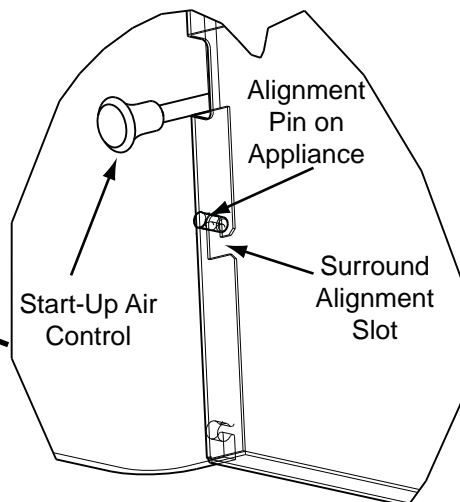

Figure 22.3
9. Align the surround slots to the lower pins on the appliance, one on each side. **Figure 22.3**